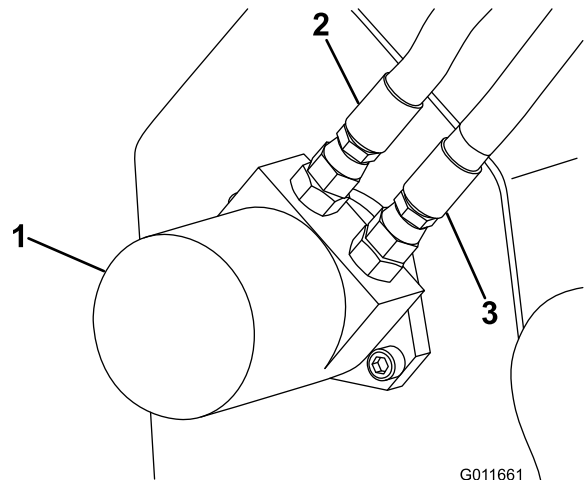

Figure 17
9. Connect the left hose to the lower port on the motor (Figure 17).
10. Connect the right hose to the upper port on the motor (Figure 17).